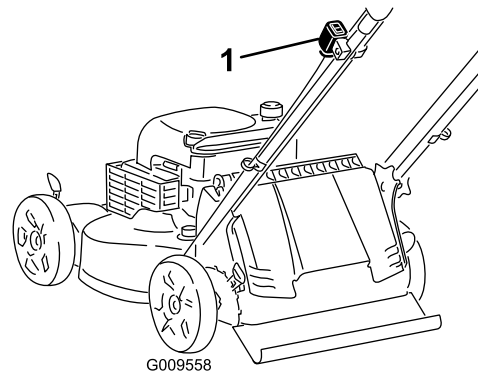

Figure 11
1. If the ignition switch on your machine (Figure 11) is a toggle switch (with both an “I” and a “Stop”), push the switch to the “I” position. Otherwise, go to step 2.